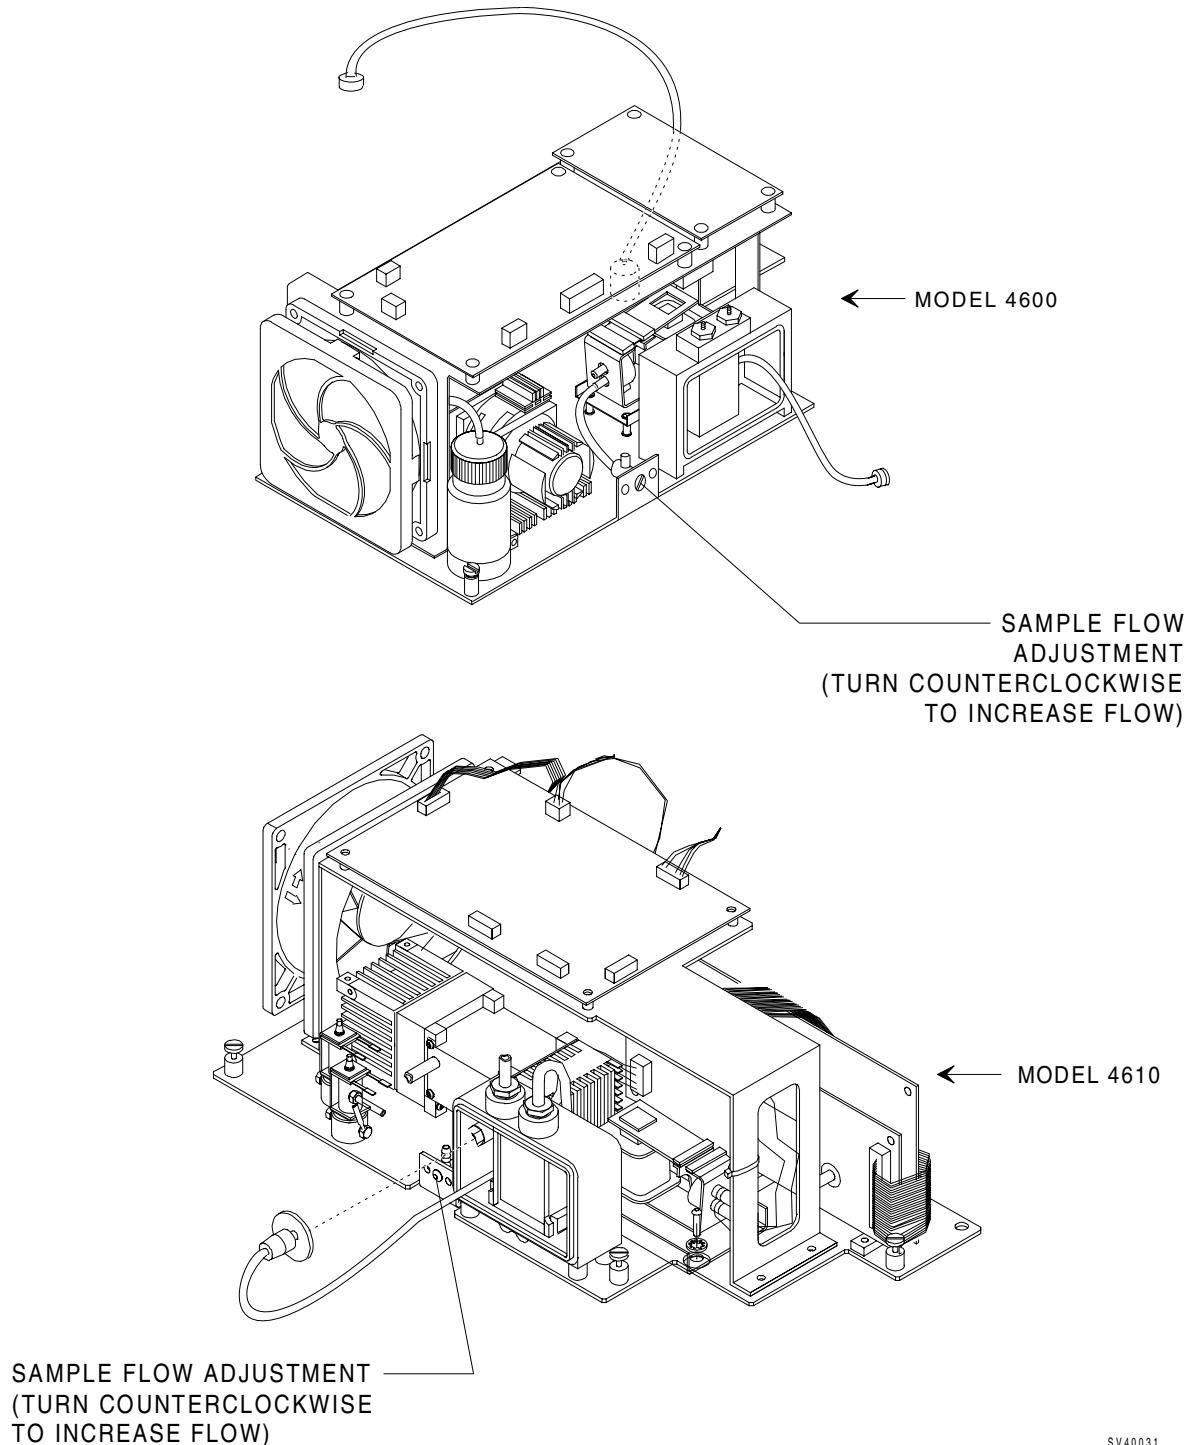

Figure 5-13: MULTISPEC PUMP FLOW RATE ADJUSTMENT
5.13.1.7 Adjust the flow restrictor (see Figure 5-13) for a reading of 200 ml/min. on the test flowmeter.